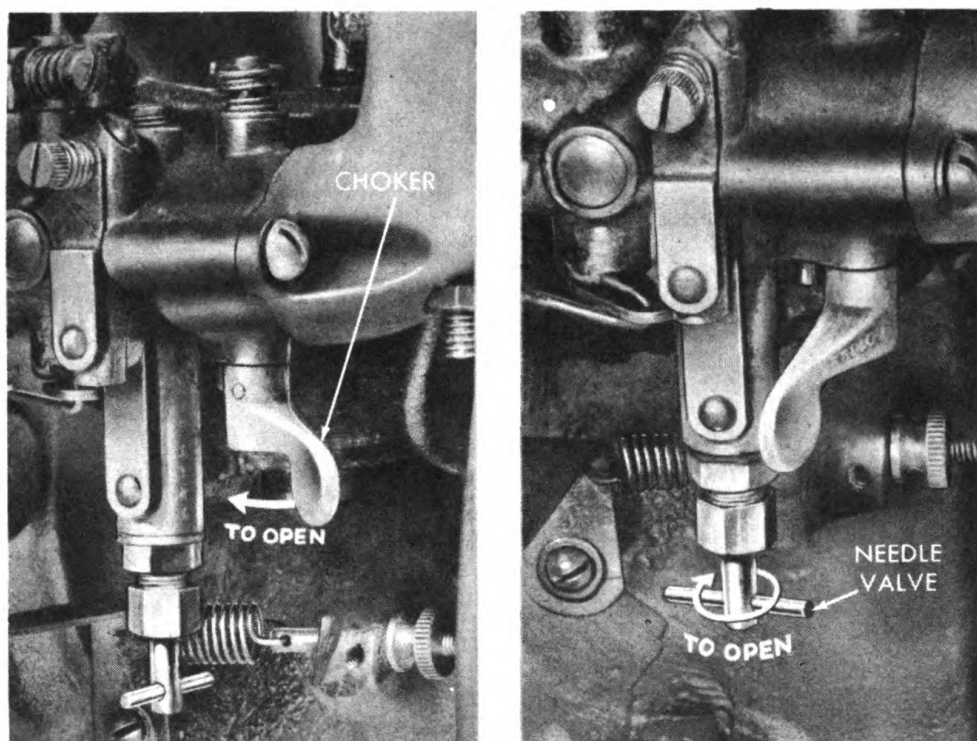

Figure 15—Choker and Needle Valve Positions
- (1) Close choker (figure 15).
- (2) Open needle valve to left, one and one-half turns (figure 15).